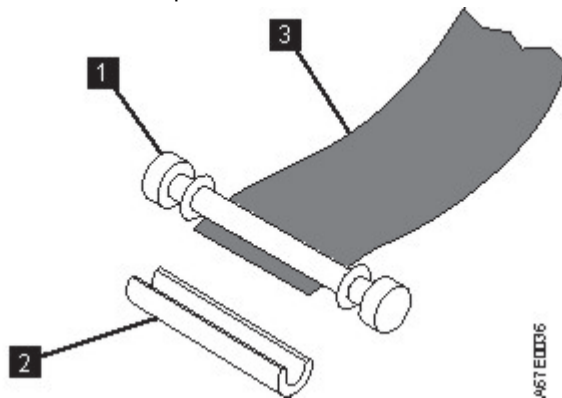

Figure 17. Removing the C-clip from the leader pin
5. On the leader pin (1 in Figure 17 on page 71), locate the open side of the C-clip (2). The C-clip is a small black part that secures the tape (3) to the pin.